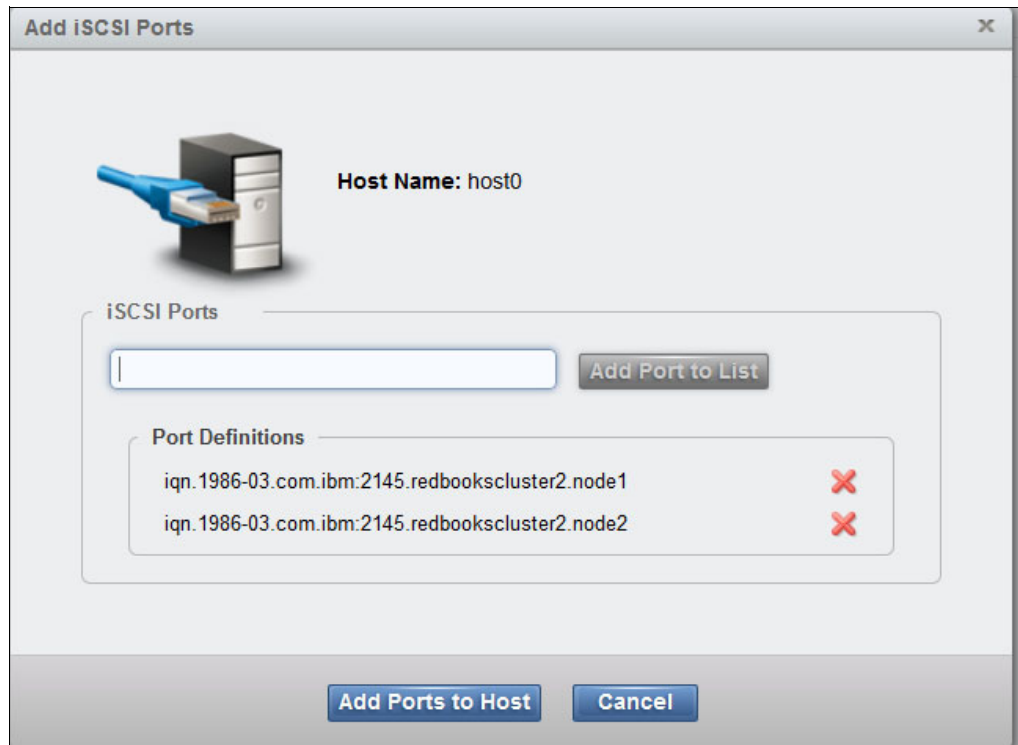

Figure 15-6 Adding the IQNs to the host object
- e. Click **Add** → **iSCSI Port**. Provide the new IQN of the iSCSI initiator, and then click **Add Port to List**. Similarly, add all the IQNs to the port list. After adding all the IQNs, click **Add ports to Host**, as shown in Figure 15-6.